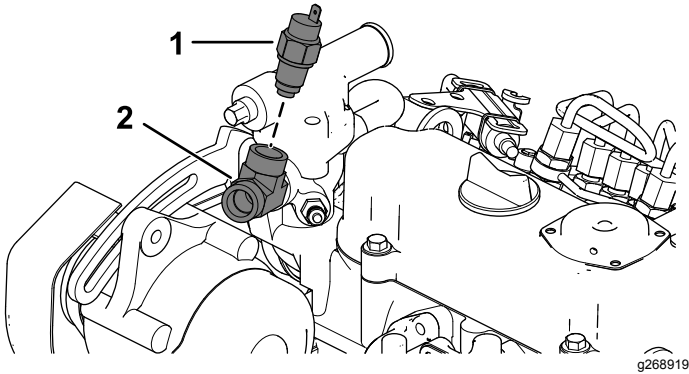

Figure 15
- B. Install a tee fitting (Figure 15).
C. Install the temperature switch (Figure 15).